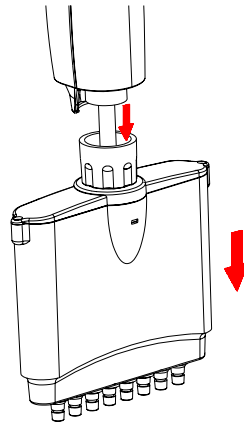

Figure 12: Pull the lower piston assembly downward slowly until the cylinder lock appears.
3. Pull the lower piston assembly downward slowly until the metal cylinder lock appears as shown in Figure 12.